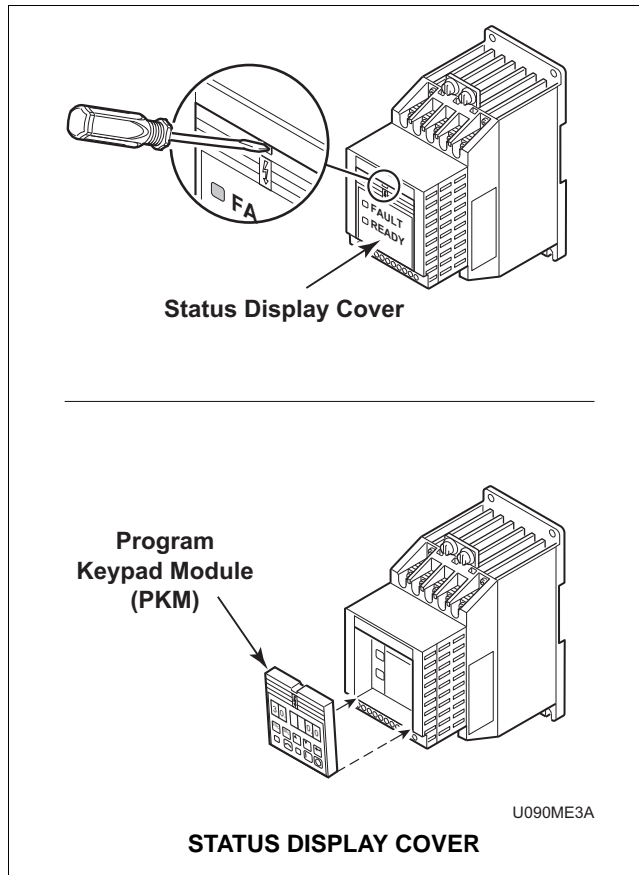

Figure 30
2. Insert a small screwdriver into slot, pry back, and remove status display cover. Refer to *Figure 30*.
2. Insert small screwdriver into slot, pry back, and pivot module out. Avoid bending or twisting contact pins located underneath center portion of the module (*Figure 30*).